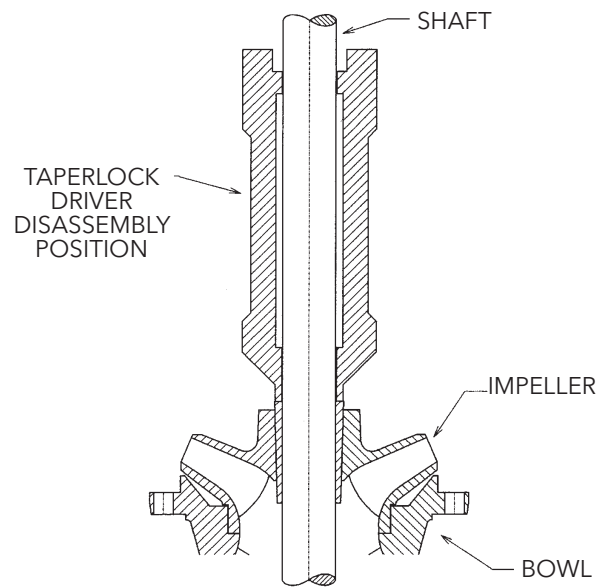

Figure 17
- Insert a screwdriver into the slot in the taperlock (677) to spread the slot and slide the taperlock over the pump shaft. Hold the impeller against bowl and slide the taperlock into the impeller hub. Be sure the taperlocks have been cleaned and are dry.
- Hold impeller firmly against the suction bowl/bell and drive the taperlock into place with a taperlock driver, (See Figure 17). After the impeller is secured in position, the top end of the taperlock should be 1/8" above the impeller hub.
- Slide intermediate bowl (670) onto shaft and secure with capscrews provided.